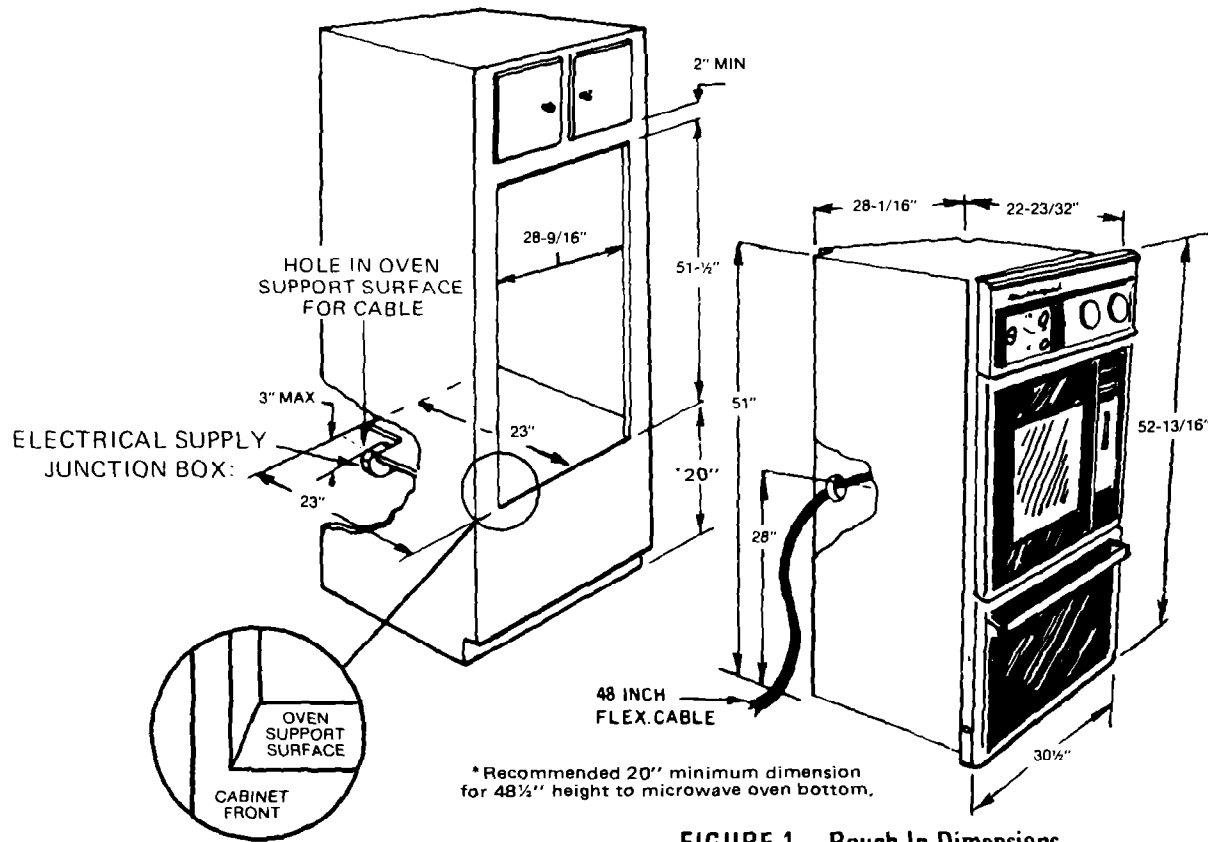

FIGURE 1 – Rough-In Dimensions
Refer to Figure 1 for the dimensions of the oven and the space necessary to receive the oven. The oven support surface may be solid plywood or similar material but the contact surface must be level from side to side and from front to rear. This surface is 2¾" below the open lower door height.
B. The appliance should be connected to the fused disconnect (or circuit breaker) box through flexible armored or non-metallic sheathed cable. The flexible armored cable extending from the appliance should be connected directly to the junction box. The junction box should be located as shown in Figure 1 so that as much slack as possible remains in the cable between the box and the appliance so that it can be moved if servicing is ever necessary.